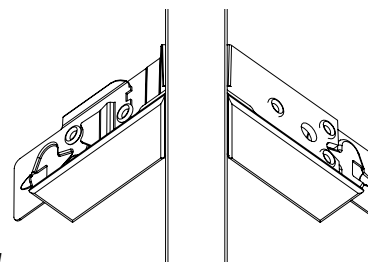

Fig 21
- The finished visual should have the overrides of the brackets flush with the main (**Figs 21 & 22**)